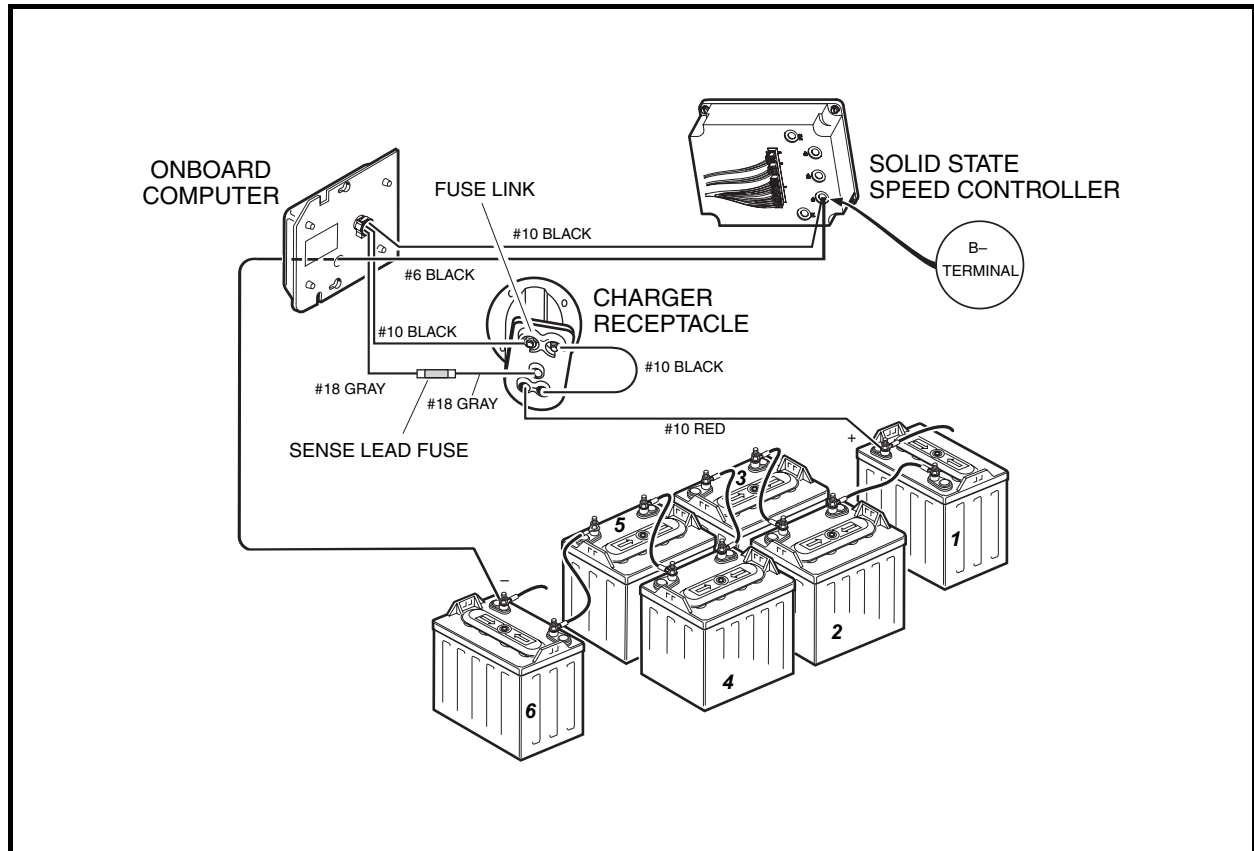
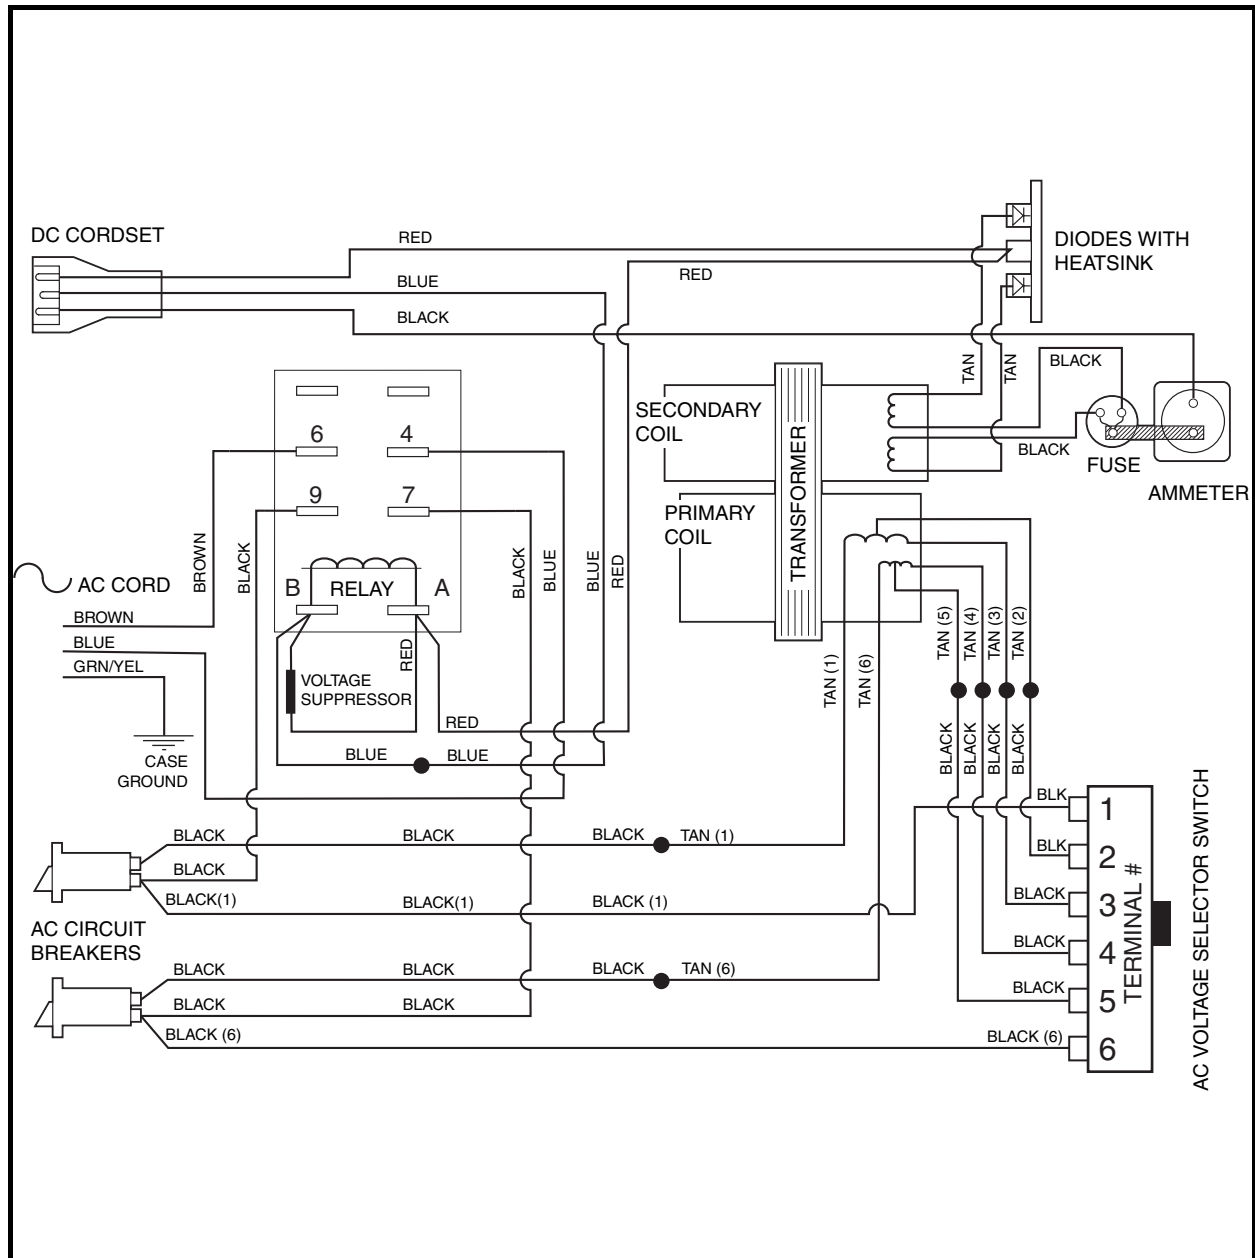

Figure 3-7 Charge Circuit and Battery Configuration – Limo Electric Vehicles
Figure 3-11 PowerDrive Export Charger Wiring Diagram
The negative terminal of the receptacle is connected to the onboard computer (**Figure 3-7, Page 3-8**). The 10-gauge black wire from the onboard computer connects to the B– terminal on the speed controller, and the 6-gauge black wire (also on the controller B– terminal) goes through the onboard computer and connects to the negative (–) post of battery no. 6. The positive terminal of the charger receptacle is connected to the positive (+) post of battery no. 1. The gray wire from the onboard computer is connected to the charger receptacle.
3. If the charger does not operate exactly as described above, refer to the wiring diagram and make sure that the vehicle is wired correctly (**Figure 3-2, Page 3-3 through Figure 3-7, Page 3-8**) and that the internal charger wiring is correct (**Figure 3-11, Page 3-13**).
- Knowledge of battery charger wiring and component terminology is required before attempting any repair (Figure 3-11, Page 3-13).